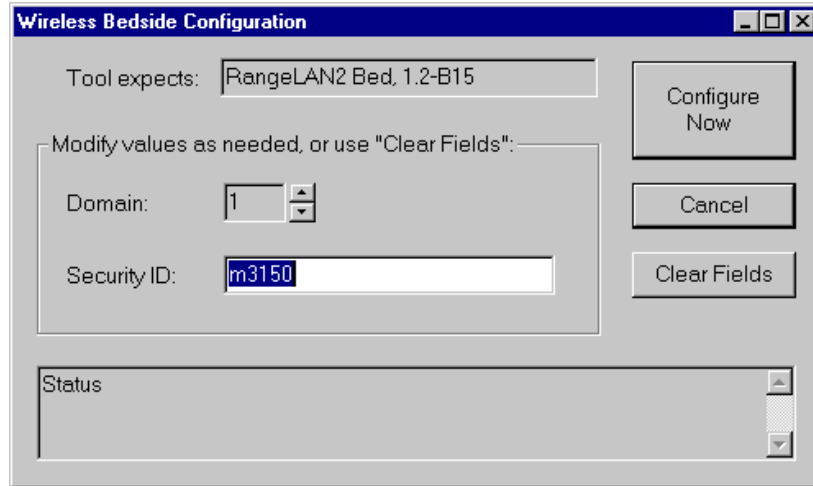

Figure 4-15 Wireless Adapter Window
Step 3. Click **Configure Now** in the Configuration Tool window of Figure 4-5 on the configuring PC to open the **Wireless Adapter Configuration** window of Figure 4-15.